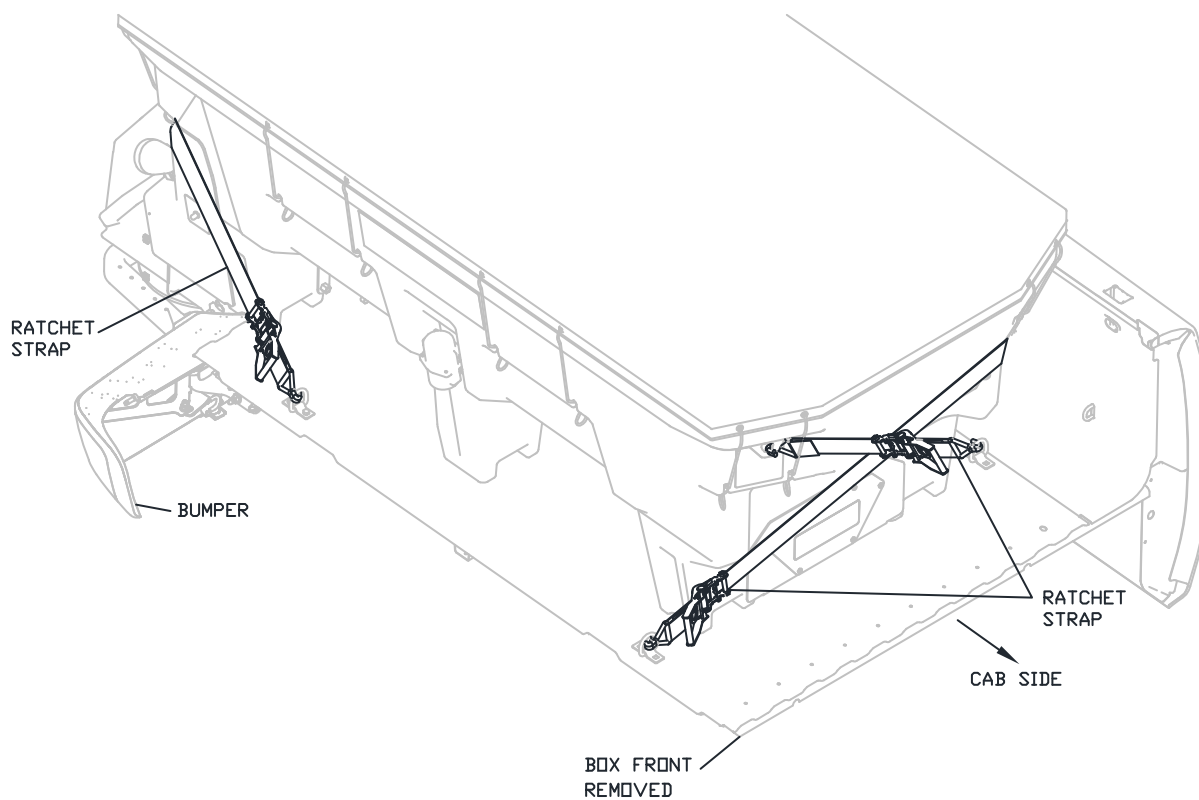

Figure 11. Ratchet Strap Installation & Orientation
1. Orient Ratchet Straps as shown in Figure 11.